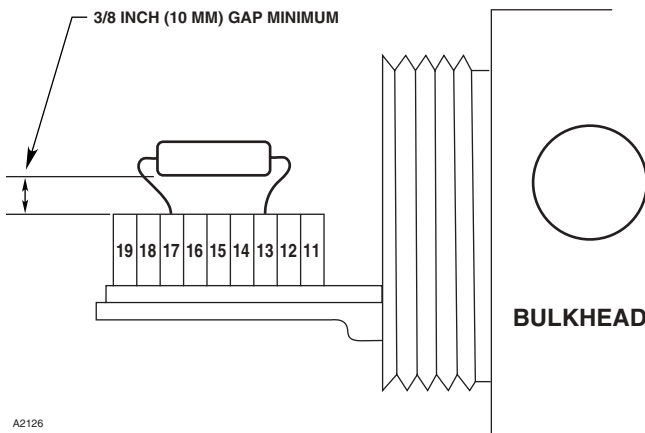

Figure 4—X3302 Terminal Block
- Figure 4 shows the wiring terminal strip located inside the detector’s integral junction box.